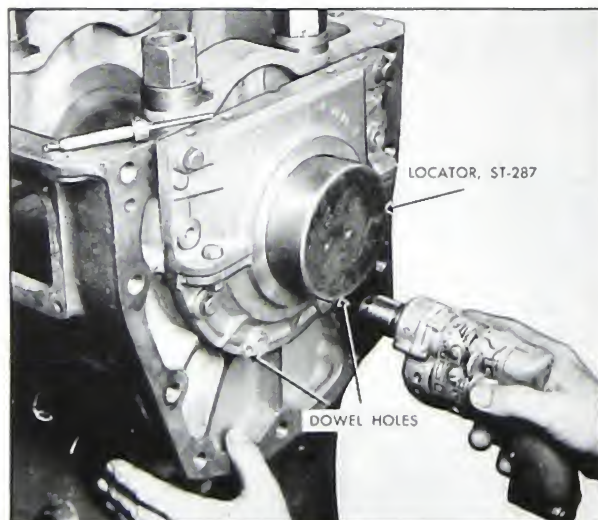

Fig. 2-44. Dowelling rear cover plate to block
5. Drill and ream two dowel holes in upper plate to smallest permissible size. New blocks have 3/16" dowels, but if redowelled, it will be necessary to increase size by 1/64" over last dowels installed. See Fig. 2-44.